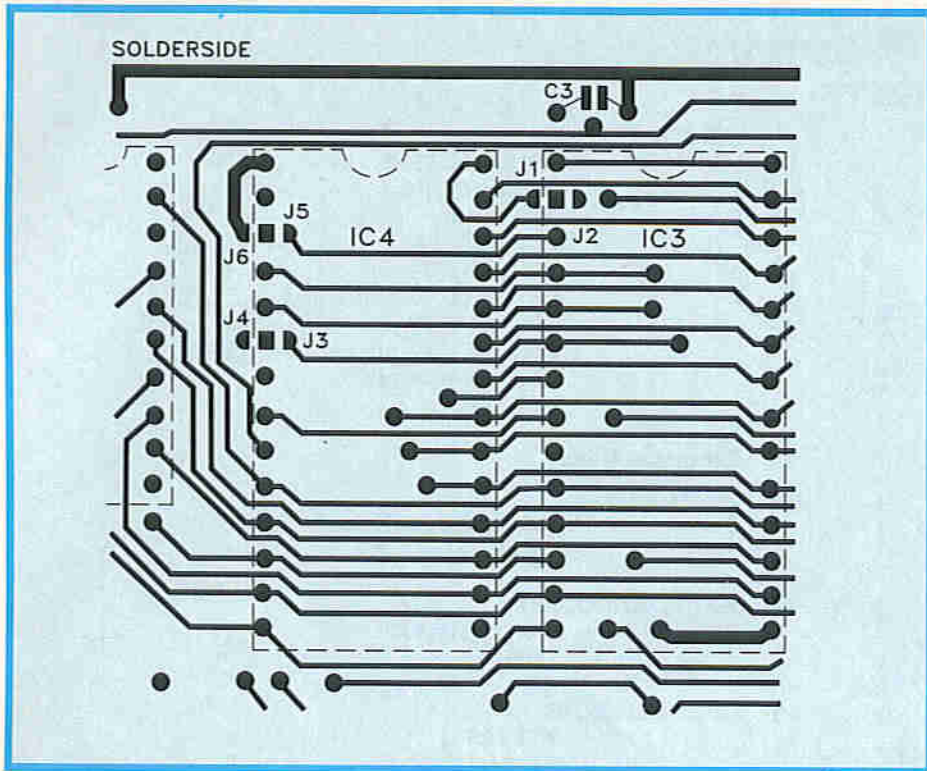

Figure 6. The underside of the interface card showing the locations where the special solder-bridge links must be made or left open.
1. Solder bridges have to be made under both the static RAM IC and EPROM (ICs 3 and 4) for the links J1 to J6. This is an unusual technique and should be done carefully, and in accordance with the following table. See also Figure 6.